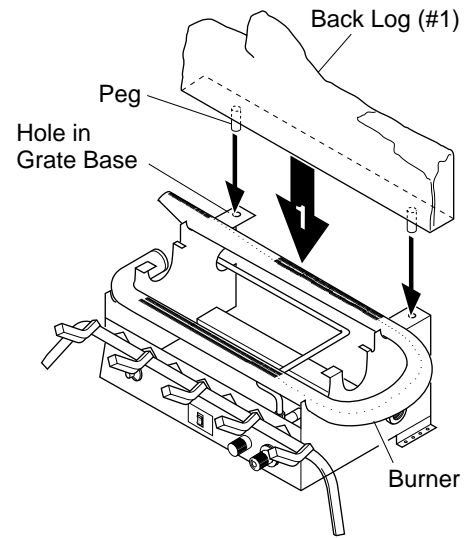

Figure 21 - Installing Back Log (#1)
1. Locate pegs on the bottom of back log (#1). Slide these pegs into the holes in the grate base behind the burner (see Figure 21).